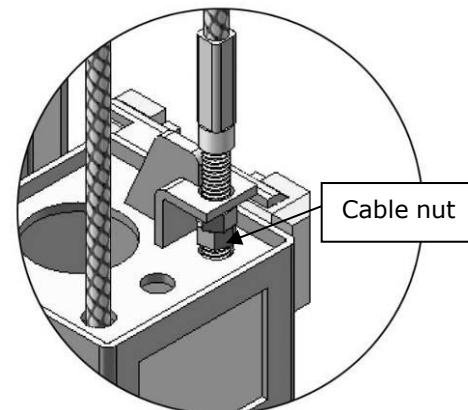

Fig. 51
1. Adjustment of synchronous cable (See Fig. 51)